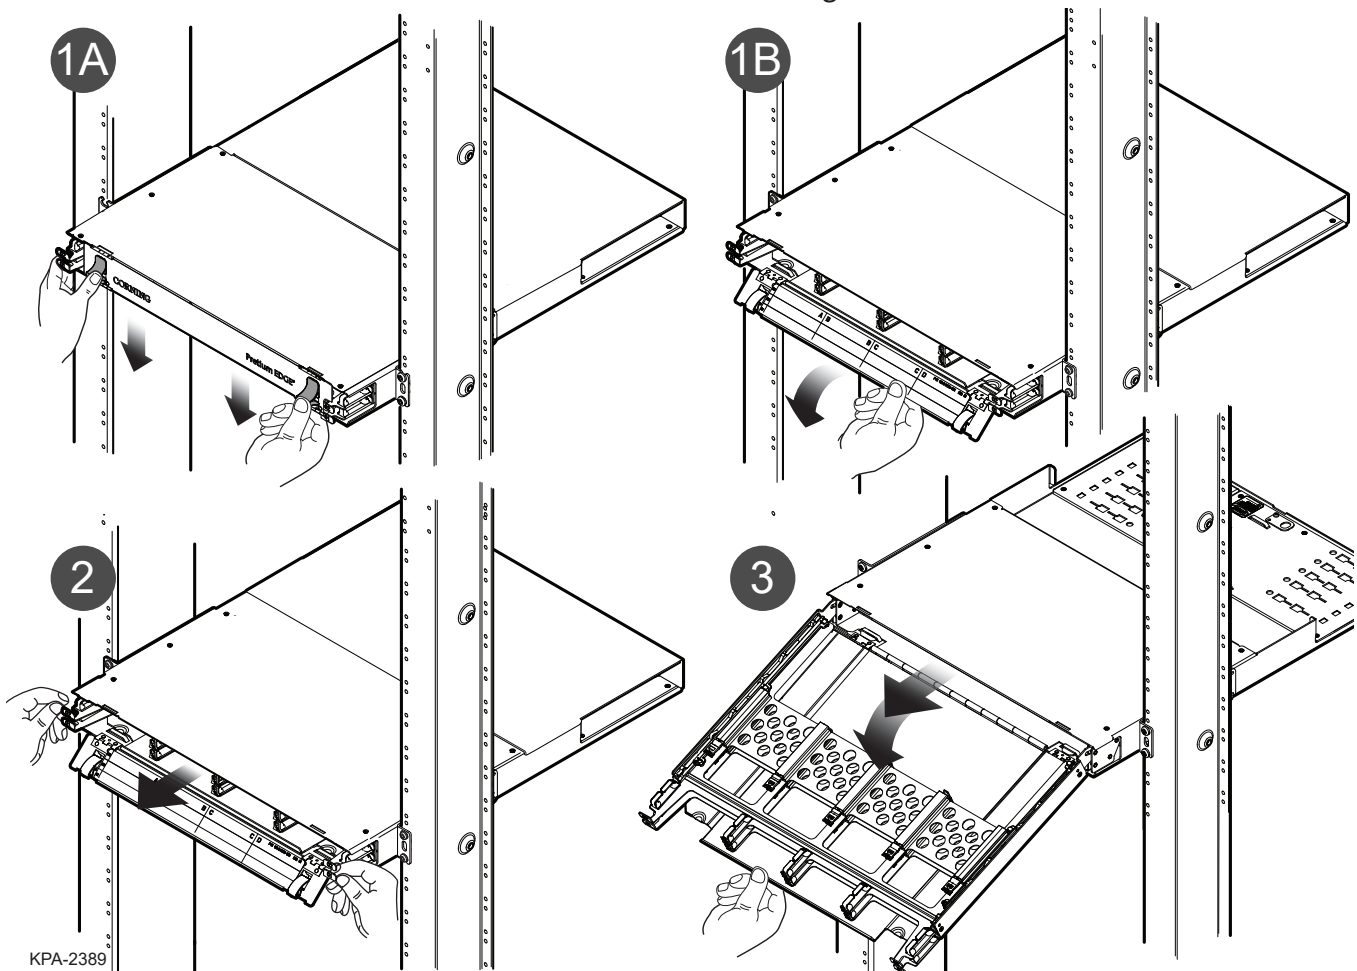

Figure 17 — Lower Tilt-down Drawer
**Step 2:** Using tabs on the side of the drawer, lift and pull out drawer horizontally until reaching hard stops (Figure 17).